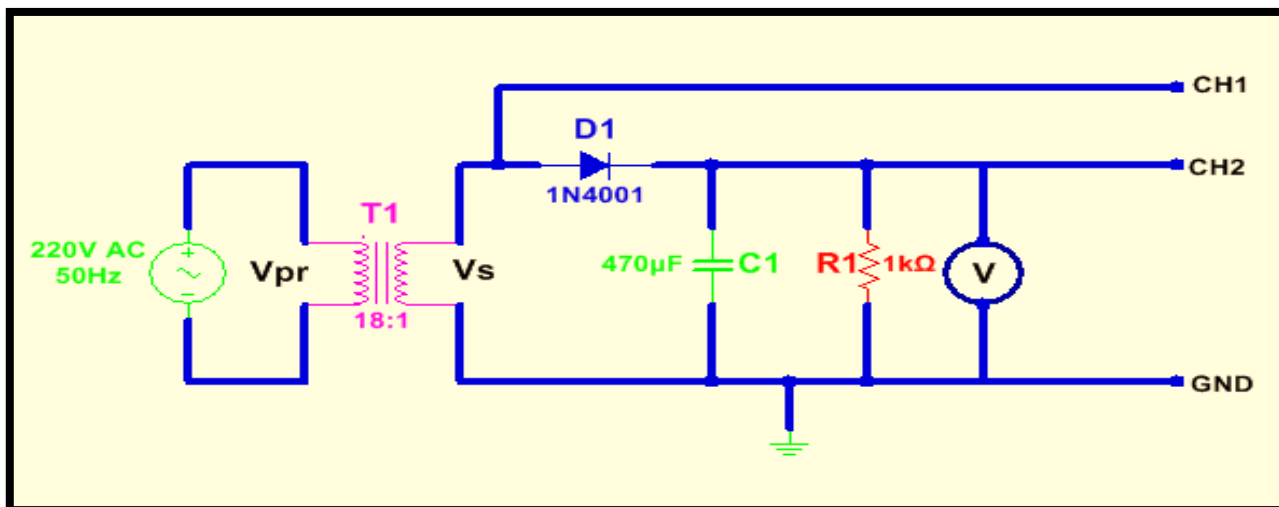

Figure 9: Practical Capacitor Filter Connected to the Half-Wave Rectifier
2. Connect a capacitor filter at the output of the half-wave rectifier as shown in Fig.9, and measure the DC output voltage and peak-to-peak ripple voltage in the output.